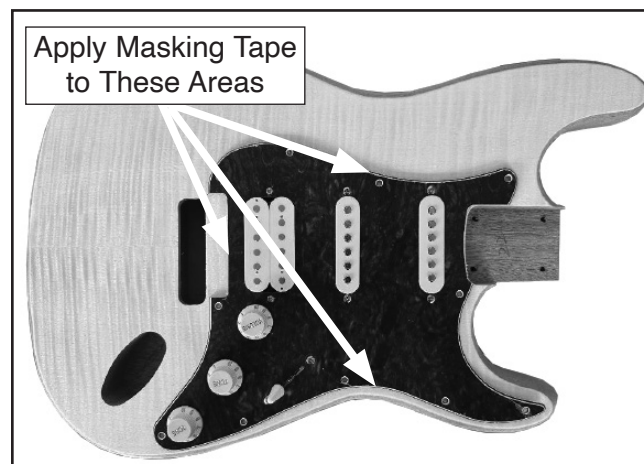

Figure 5. Pick guard placed on body.
4. Place pick guard on guitar body as shown in **Figure 5**, and temporarily secure with masking tape. Attached pickups should fit into routed channels.